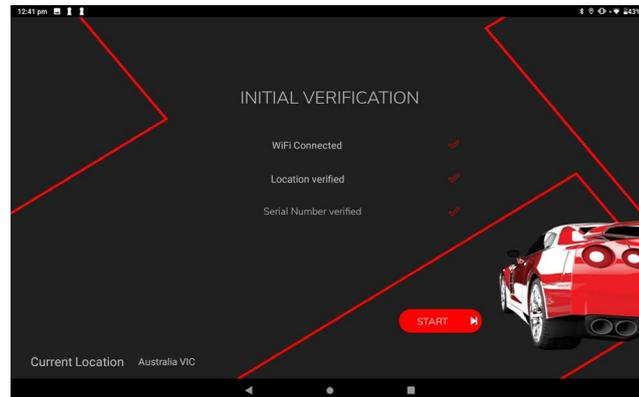

Figure 12
Step 8 : The screen will display initial verification checks for Wi-Fi connection, location, and serial number. Once verified, press "START." (Figure 12)